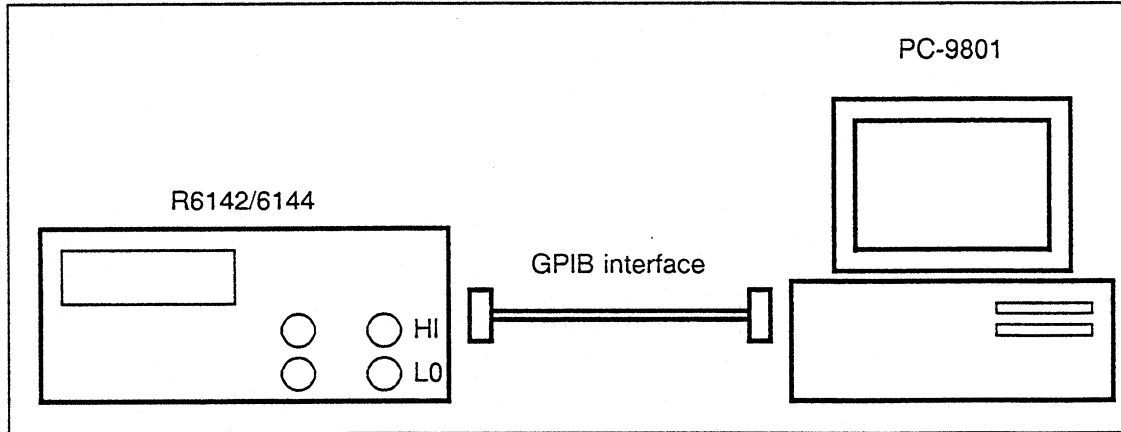

Figure 4-9 Cable Connection for GPIB Interface Test
- ① Connect the R6142/6144 to the PC-9801 personal computer as shown in Figure 4-9.